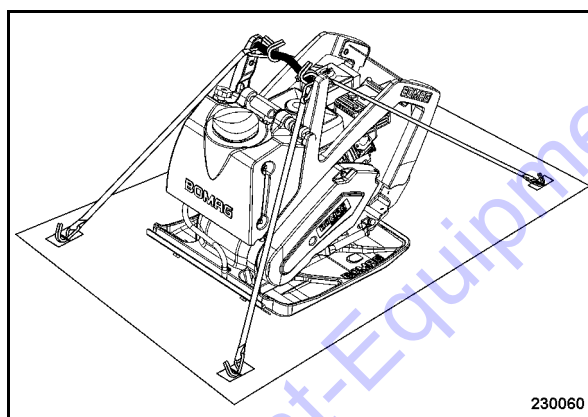

Fig. 33
- Tie the machine to the transport vehicle, fasten the lashing gear to the cross-bar (Fig. 33) on the machine.